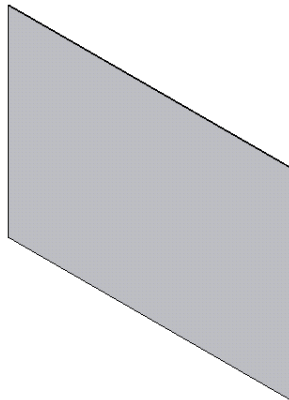

Figure 16-141 Base flange
- Create the base flange of the sheet metal component, refer to Figure 16-141.
Figure 16-141 shows the base flange created using the sketch created on the **Front** plane as the sketching plane.